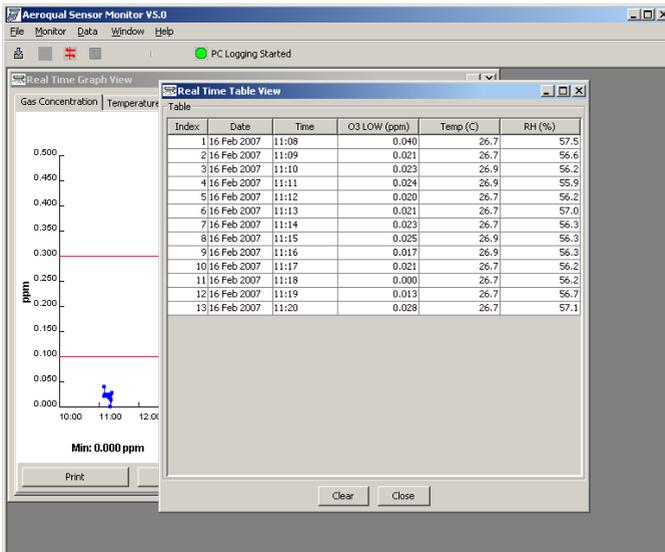

Figure 7 Real Time Table View
**Note:** As new data is received in Figure 7, it will be added to the bottom of the table. The maximum number of rows in the table view is 50.